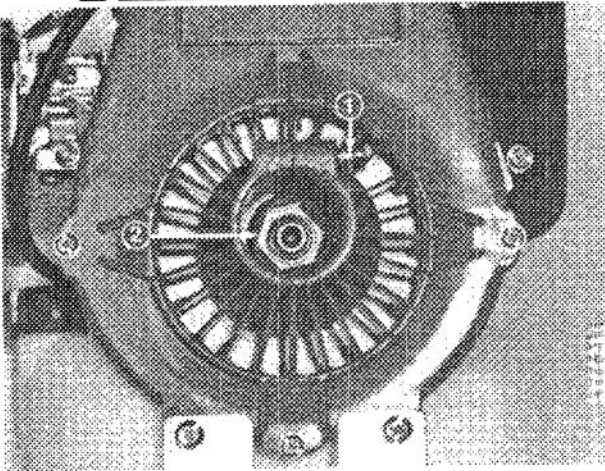
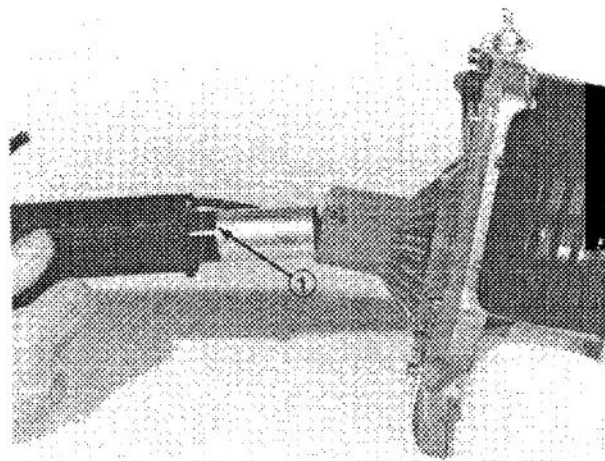

Figure 2
Figure 3
1. Rest engine on workbench on bracket and loosen bolt at open end of fan cover (Fig. 2).
2. Insert end of driveshaft assembly opposite gear case into fan housing hole (Fig. 3). Insert shaft until it is all the way up to the edge of the painted area on the shaft tube (Fig. 3). If shaft will not go all the way into the engine, rotate the gear case shaft so that hex end of drive shaft will mate with hex in crankshaft (Fig. 2, 3).